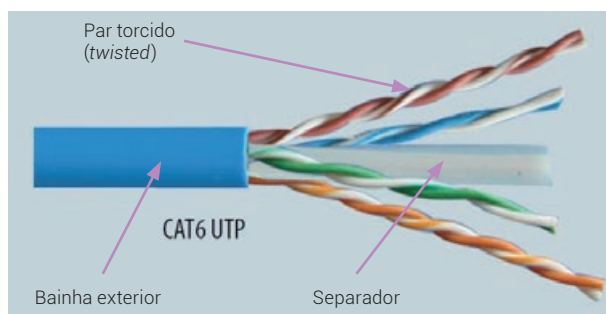

Figura 16. Cabo UTP.
- Cabos **UTP** (*unshielded twisted pair*) **4x2x0,5 cat. 6** (Figura 16).